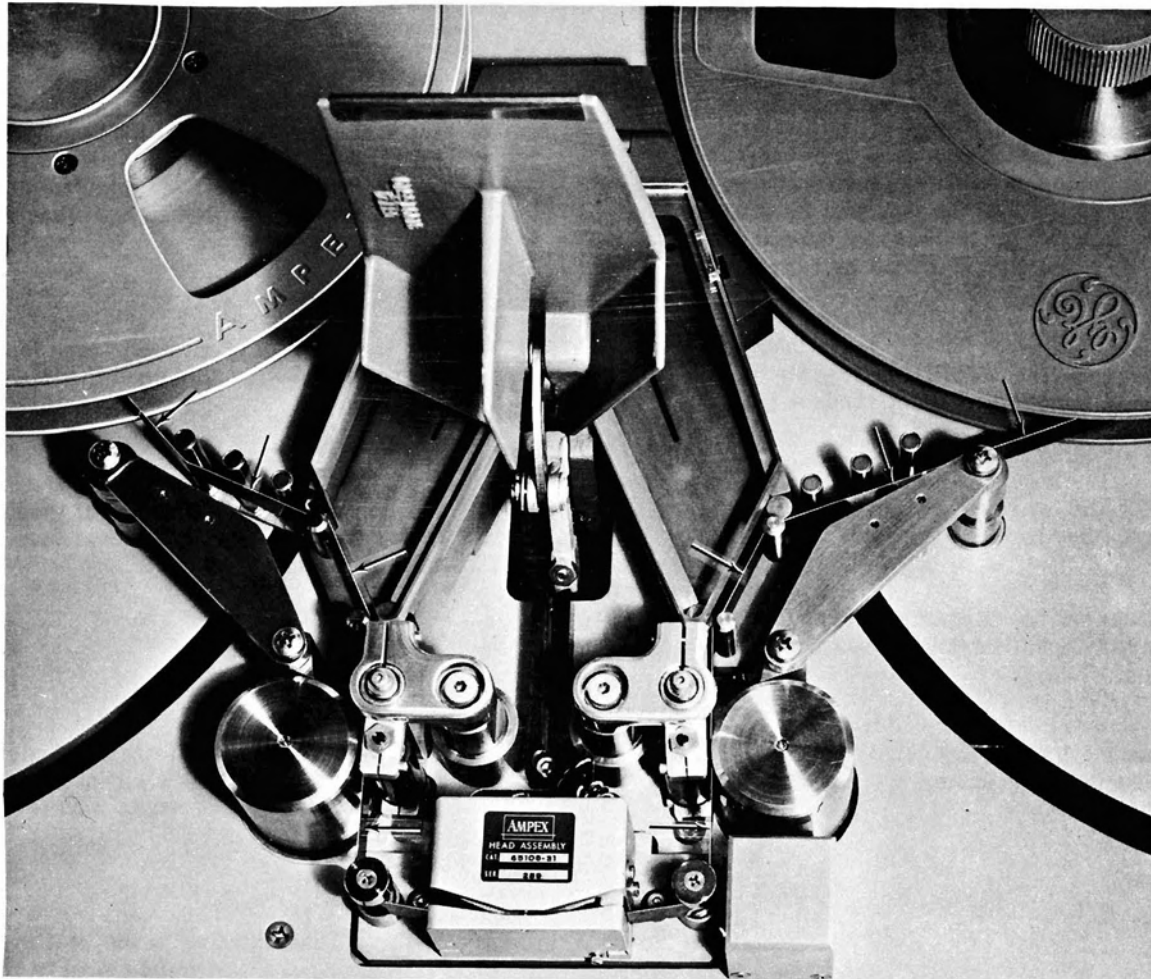

Figure IX-6. Threading Tape Through Magnetic Tape Handler
- (1) If the tape is to be used for writing, select a scratch reel of tape (one with no information to be saved) and install a write-permit ring in the groove on the back of the reel to permit writing.
- (2) If the tape is to be used for reading, check the label to see that it is the correct tape and make sure that the write-permit ring is removed.
- e. Thread the tape leader through the guides as shown in Figure IX-6. Wind the end of the tape leader around the hub of the take-up reel and manually turn the reel approximately six revolutions (clockwise) to secure the tape. **CAUTION:** The tape end must lay straight and flat on the lower reel. If the tape is folded, bunched, or protrudes from the reel, it could cause damage to the working portion of the tape.